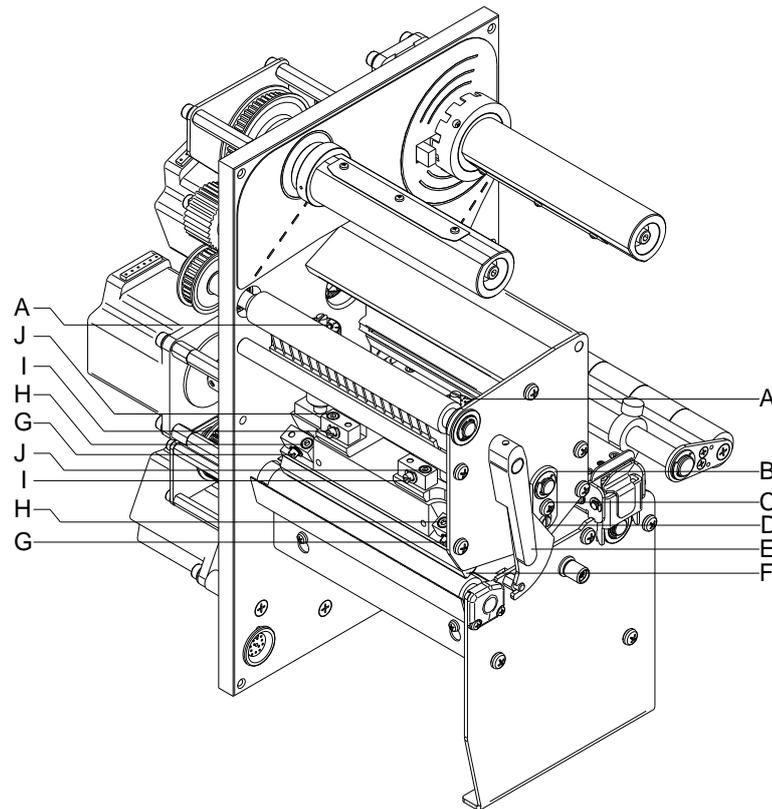

Figure 17
1. Loosen the screws (H or J, Figure 17) with a hexagon key by approx. $\frac{1}{4}$ rotations.
2. Adjust the parallelism with the adjusting screws (G or I, Figure 17).
4. Tighten again screws (H or J, Figure 17).
1. Loosen screw (C, Figure 17) by approx. $\frac{1}{4}$ rotations.
2. In order to achieve a pressure balance, turn the excentric bolt (D, Figure 17) as long as the printing result comes up to your full expectation.
3. Tighten again screw (C, Figure 17).
1. Turn pressure screws (A, Figure 17) to change the pressure of printhead.
2. Turning the pressure screws (A, Figure 17) as far as they will go in clockwise direction results in a pressure increase of 10N in contrast to the factory setting.
3. Turning the pressure screws (A, Figure 17) exactly one rotation from the right stop position counter clockwise results in the factory settings.